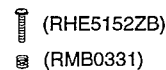

Fig. 2
- Please replace both azimuth adjustment screws (RHE5152ZB) and springs (RMB0331) used for to new ones simultaneously when readjusting the head azimuth. (Shown in Fig. 2) Even if you wish to readjust the head azimuth without replacing the screws and springs, a fine adjustment cannot be done because of the screw-locking bond adhered to the azimuth screw and spring.